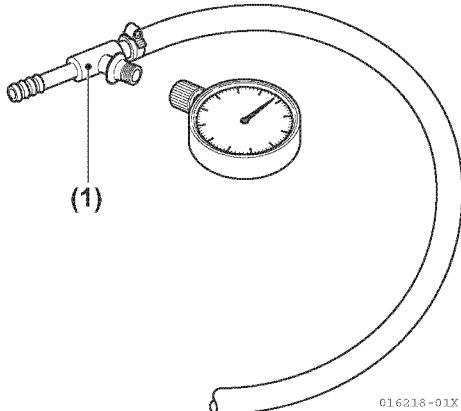

Figure 6-6
1. Attach a suitable fuel pressure gauge to a tee joint, and connect a short length of hose to one of the remaining two legs of the tee (Figure 6-6, (1)).